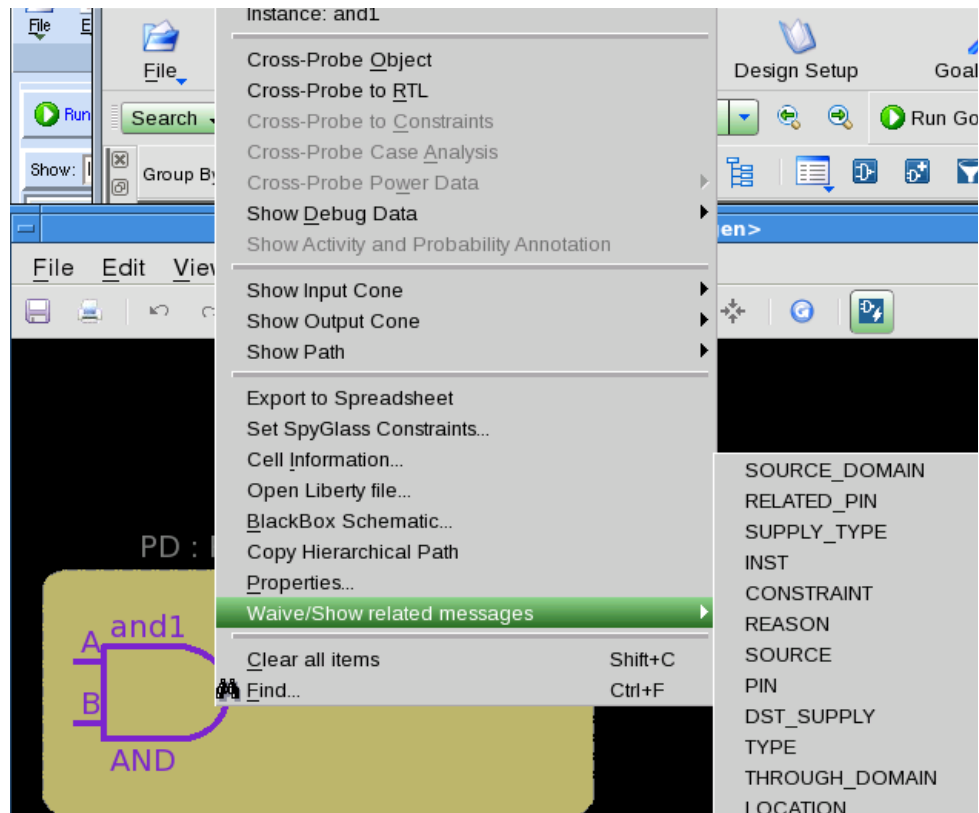

FIGURE 199. Waive/Show Related Messages Menu
- The message label collection is displayed as shown in *Figure 199*: